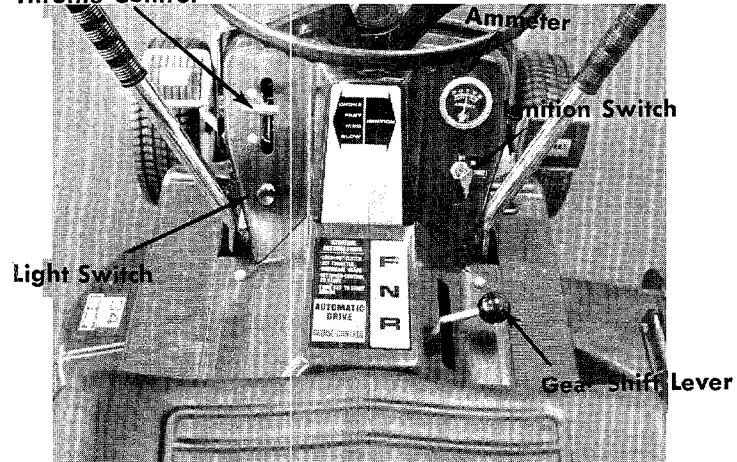

FIGURE 5. CONTROLS
- a. **Throttle Control.** The throttle control is used to regulate the engine speed and choke the engine. The engine should be operated from $\frac{3}{4}$ to full throttle when operating the cutting deck or snow thrower (optional). See figure 5.
- b. **Gear Shift Lever.** The gear shift lever is used to shift into FORWARD, NEUTRAL or REVERSE. See figures 5 and 6.
h. Ammeter. (Electric Start Model Only.) The ammeter registers the rate of battery charge or discharge. The ammeter should register on the plus side (+) when the engine is running in the fast position until the battery is completely charged. With a fully charged battery or with the engine idling the ammeter will not show a charge See figure 5.
i. Light Switch. (Electric Start Only.) Pull the light switch out to turn on the lights. The lights will only operate when the engine is running. See figure 5.
Electric Start. See figure 5. Turn the key to the START position to start the engine. When the engine is running, let the key return to the ON position. To stop the engine, turn the key to the left to the OFF position and remove it to prevent accidental starting.
Step 4. Set the throttle control in the CHOKE position. See figure 5.